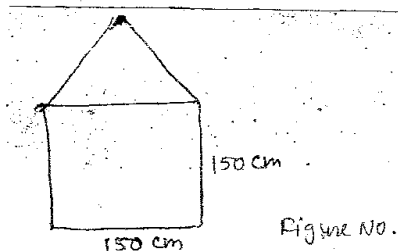

Figure No. 1
- Find the centroid of an area, which consist of a square & a equilateral triangle constructed on it, having base of triangle as side of square. Take side of the square as 150cm refer following figure.no.1